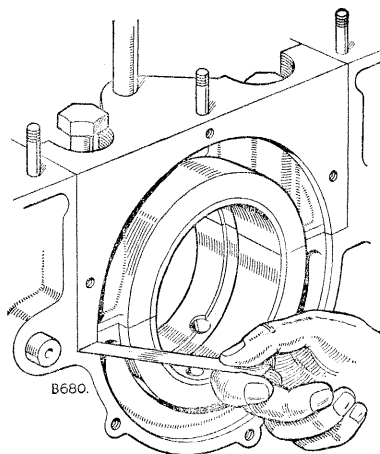

Fig. A-16—Checking main bearing nip
1. Remove the bearing caps and fit the bearing shells, locating by means of the tags. Tighten the caps down and slacken off one bolt of each pair. Check the bearing nip, as illustrated in Fig. A-16, ensuring that the clearance does not exceed .004 to .006 in. (0,10 to 0,15 mm). The nip can be corrected by selective assembly of bearing shells; these are available in slightly varying thicknesses.